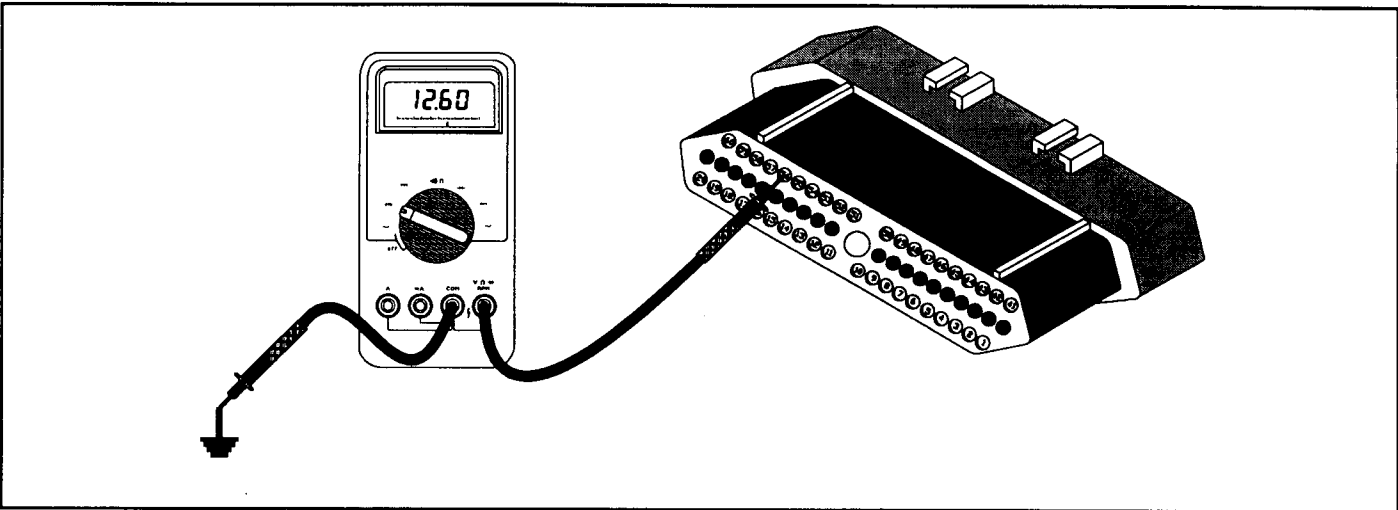

Figure 13
- With the connector unplugged, check cavity # 56 for battery voltage (See Figure 13). While checking for voltage, wiggle the main wiring from the battery to the controller. If battery voltage is lost during this wiggle test, a bad fusible link or a break in the wire has ocured (See Figure 8 for fusible wire location). In Figures 9 and 10 a Fusible Wire Chart can be found showing vehicle application and fusible wire color. In some applications a typical fuse is used and is noted. If a broken wire is in the harness, a continuity check is required at different points across the wire to locate the break.